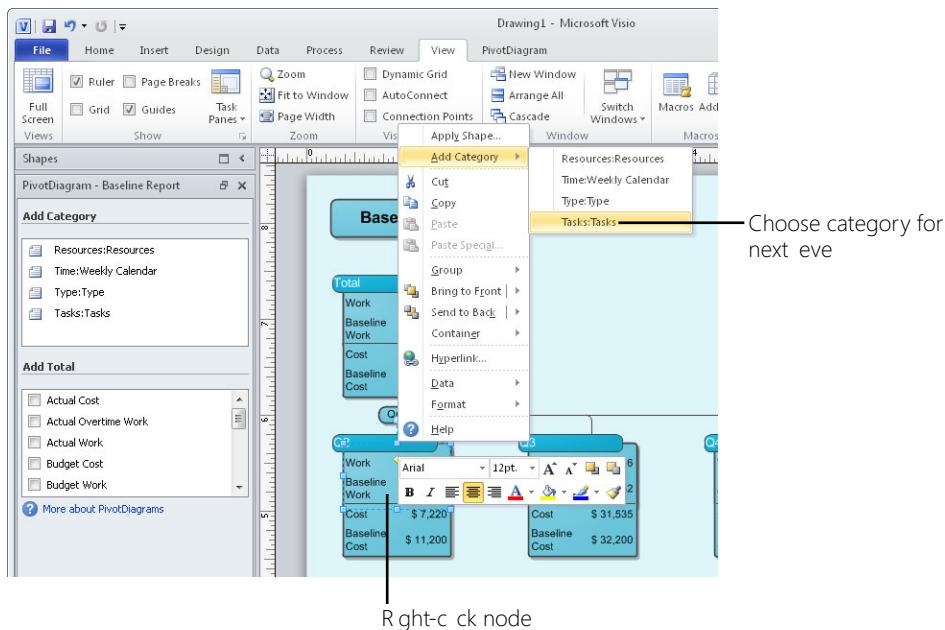

FIGURE 9-17 Add a category to a node to expand it to show more detail.
- **Categorize** To expand a node to show more detail, you add a category to that node. Right-click the node, and then choose Add Category. On the submenu, choose Resources:Resources, Time:Weekly Calendar, Type:Type, or Tasks:Tasks, as shown in Figure 9-17. For example, if the first level is categorized by tasks, you can add additional levels with the category Tasks:Tasks to build a work breakdown structure (WBS) diagram. You can also add a category by selecting the node and then clicking the category in the Add Category section of the PivotDiagram task pane to the left of the pivot diagram.